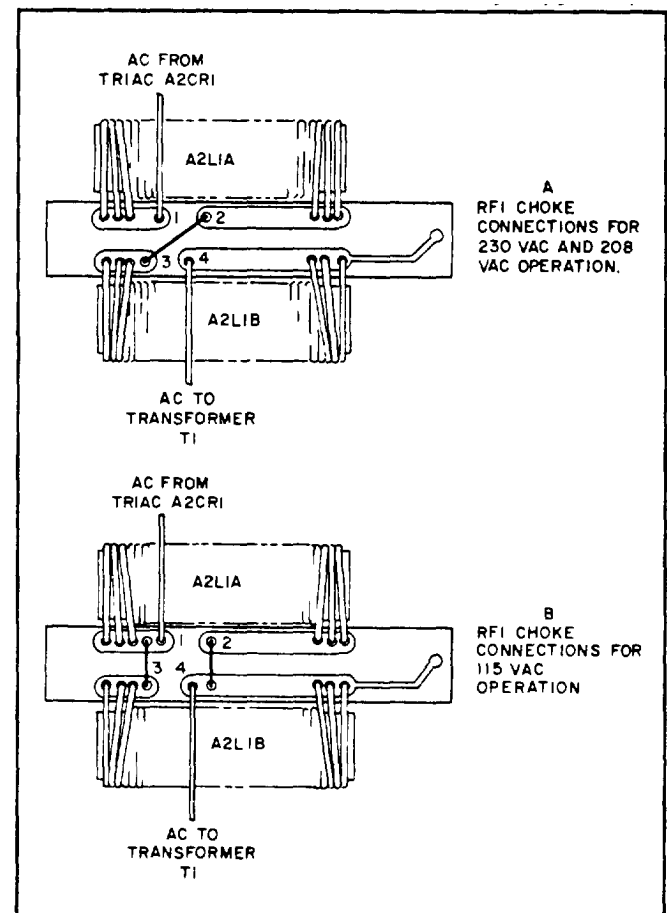

Figure 2-5. RFI Choke (A2L1A/A2L1B) Connections for 115Vac Operation (Model 6259B, 6260B, 6261B, and 6268B)
- Unsolder jumper between terminals 2 and 3 of RFI choke mounting board and solder jumpers between terminals 1 and 3, 2 and 4 (see Figure 2-5 B). Replace cover on RFI assembly.